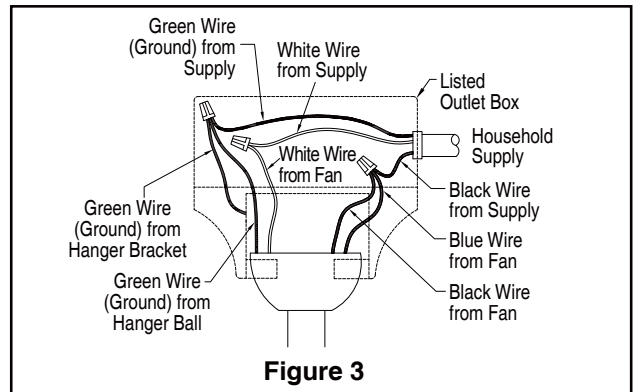

Figure 3
3. After splicing and making the wire connections, the wires should be spread apart and turned upward with the grounded conductor and the equipment-grounding conductor on one side of the outlet box and the ungrounded conductor on the other side of the outlet box. (Figure 3)